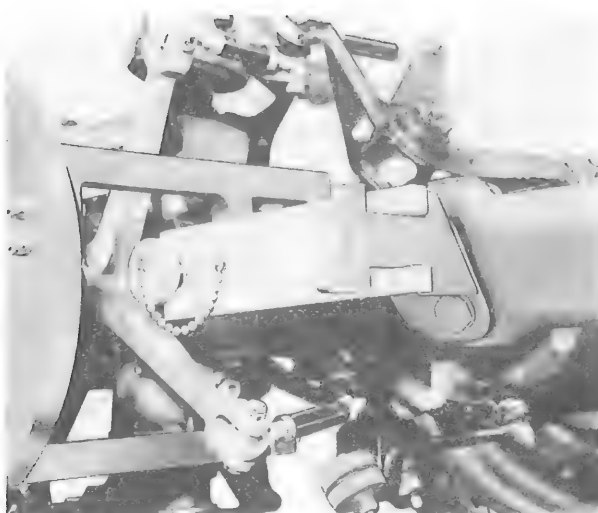

Figure 7-37. Setting Blade Pitch
n. Mount rigging protractor assembly, part No. S1670-10566, on blade restrainer, part No. S1670-10650-13, at aft blade with that blade in a horizontal position. Install slide in slot of rigging protractor with slide marked 30° LEFT facing blade hub and engraved side of slide facing outboard. Move slide against blade hub and tighten thumbscrew. (See figure 7-37.)